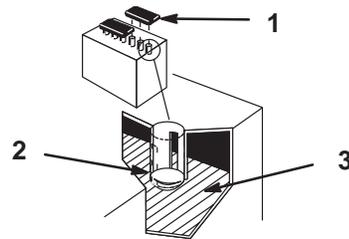

Figure 45
1. Open covers to see into the cells. The electrolyte must be up to the lower part of the tube (Fig. 45). Do not allow the electrolyte to get below the plates. (Fig. 45).
2. Lift off the filler caps (Fig. 45).
3. Slowly pour distilled water into each battery cell until the level is up to the lower part of the tube (Fig. 45).